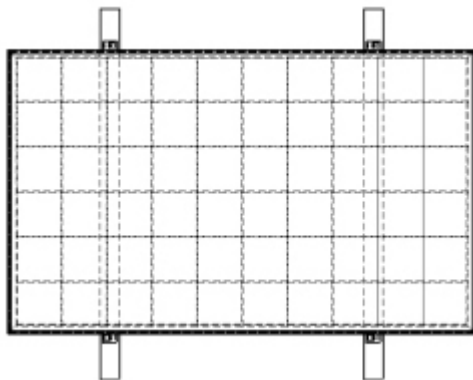
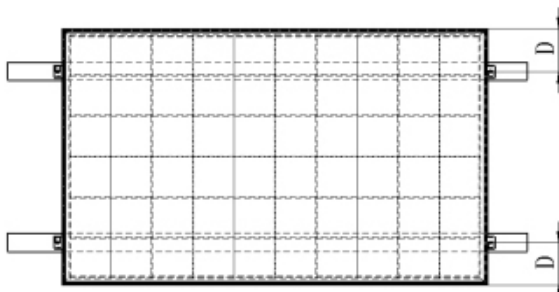
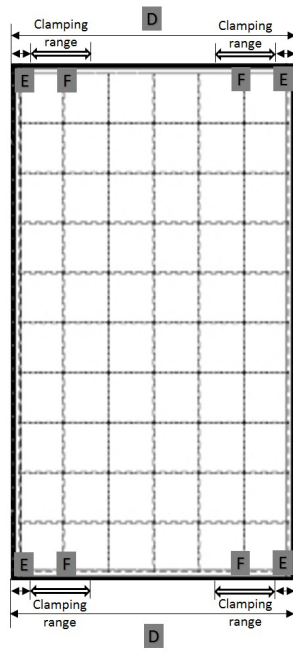

Figure 1: Connecting modules to clamps on long side of frame
Figure 2: Connecting modules to clamps on short side of frame
Figure 6: Short side clamping range
Modules can be laid on rails, either on the long side of the frame (*Figure 1*) or on the short side of the frame (*Figure 2*).
6. For mounting the supporting rails on the long side of the frame (*Figure 1*), slide bolts through the rail grooves next to the 4 clamp locations. The module may be clamped only in the permitted clamping range.
7. For mounting the supporting rails on the short side of the frame (Figure 2), slide bolts through the rail grooves next to the 4 clamps locations. The module may be clamped only in the permitted clamping range . For the exact locations refer to area F in Figure 6 and Table 2.